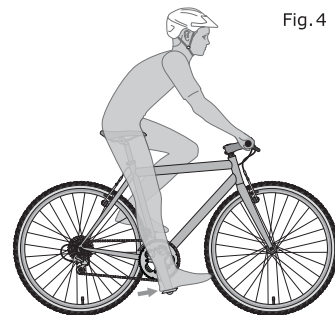

Fig. 4
1. Up and down adjustment. To check for correct saddle height [Fig. 4]: